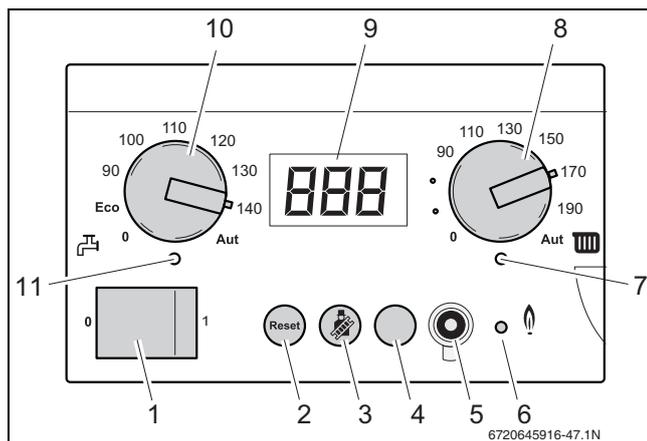

Fig. 73 BC10 basic controller
- ▶ Set the upper space heating water temperature limit for heating mode with the "space heating water temperature" knob (\rightarrow fig. 73, [8]) (\rightarrow table 19). This limitation does not apply to DHW preparation.
- ▶ Set the DHW temperature knob (\rightarrow fig. 73, [10]) to the required temperature of the hot water in the hot water cylinder (\rightarrow table 20).
- ▶ Switch OFF the appliance by pressing the main switch of the BC10 (→ fig. 73, [1]).
- ▶ Switch off OFF appliance by pressing the main switch of the BC10 (→ fig. 73, [1]).